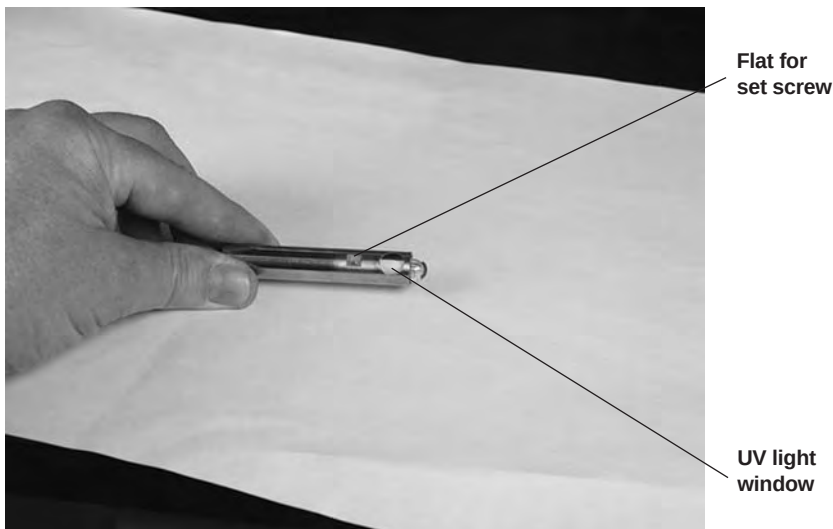

Fig. 13.18. Lamp with UV light window and flat for set screw.
7. Remove the new UV lamp from its package. Note the round window for the UV light (Figure 13.18), and the flat for the set screw.